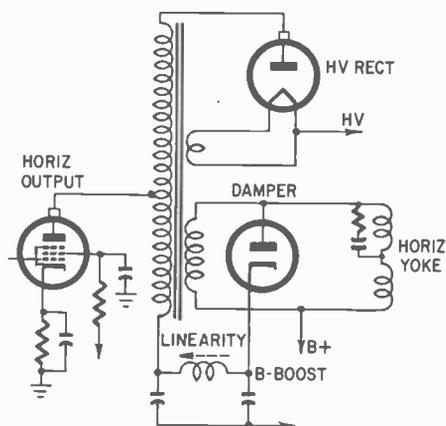

Fig. 806. Horizontal output transformer having separate primary and secondary windings.
1. The transformer circuit uses a separate secondary winding to drive the yoke (Fig. 806). B-plus is fed into the flyback